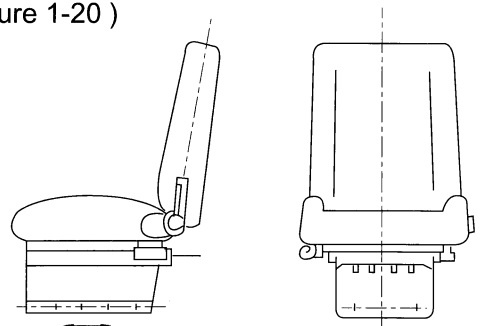

Figure1-20 Seat ( double-way, with cushion )
1.5.7 Seat Adjustment ( Figure 1-20 )